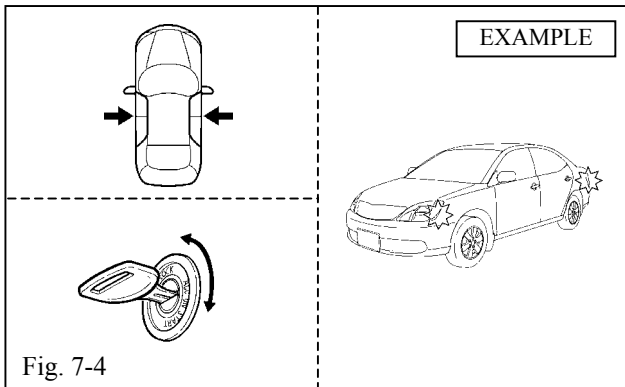

Fig. 7-4
- (d) Close all doors. Insert the key into the ignition switch and turn it from LOCK to ON 5 times (ending at ON). (Fig. 7-4)
The hazard lights flash once. (Fig. 7-4)